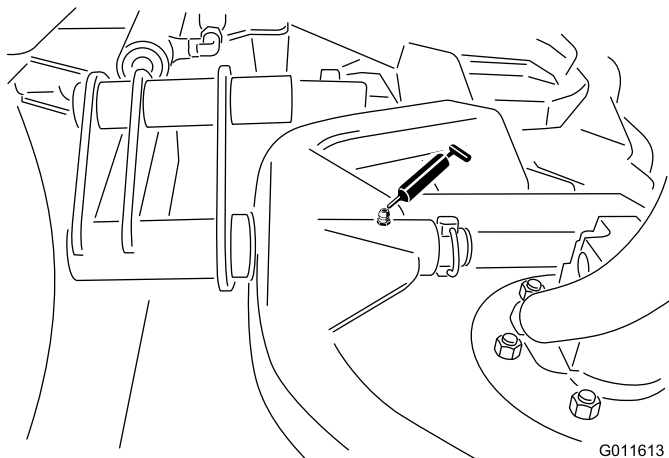

Figure 29
- Cutting unit carrier-frame pivot (1 each) (Figure 29)